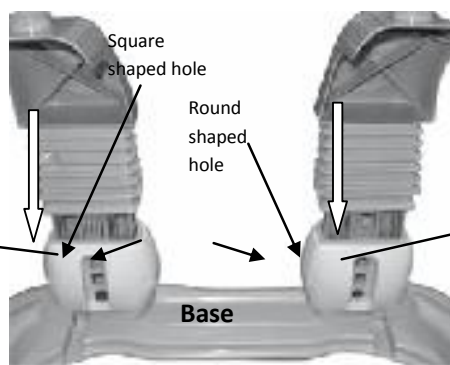

**Figure 1**
- Press each leg button and insert the leg firmly into the mounting hole at the base as per **Figure 1**.